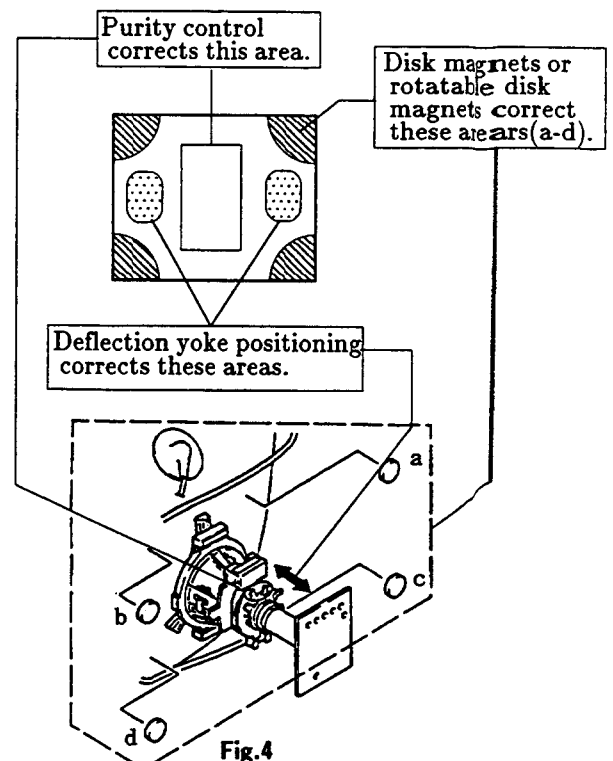

Fig.4
8. When landing at the corner is not right, adjust by using the disk magnets. (Fig.4)